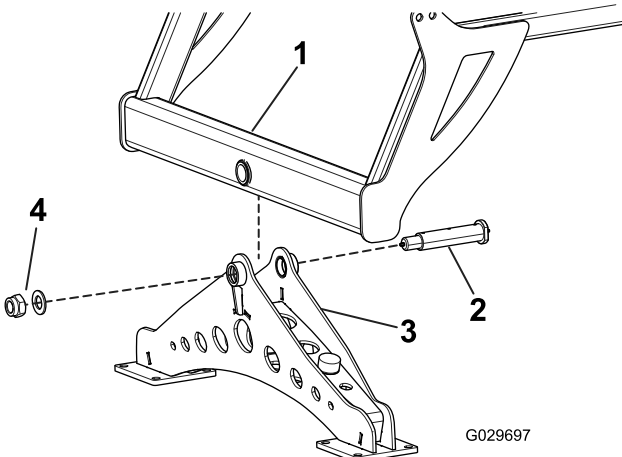

Figure 3
1. Block the castor-wheel assembly in an upright position using jack stands under the carrier-frame crossbar (Figure 3).
2. Lower the carrier-frame crossbar into the top of the wheel assembly and secure it with a pivot pin, washer, and locknut (Figure 3).